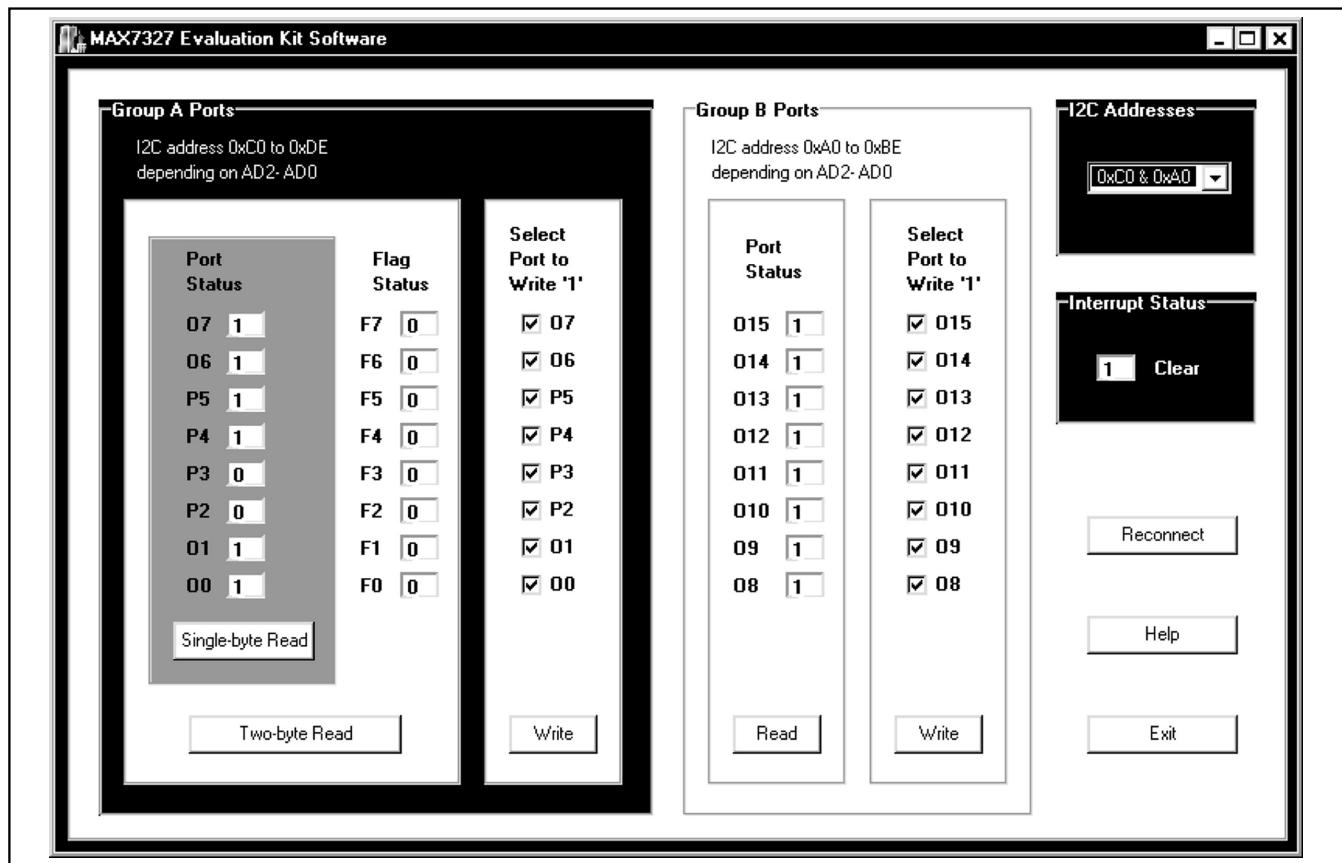

Figure 1. MAX7327 Evaluation Software Main Window
- Start the MAX7327 EV kit software by opening its icon in the **Start** menu. The GUI main window appears as in Figure 1.
To start the MAX7327 EV kit software, double-click the MAX7327 EV kit icon that is created during installation. The GUI main window appears as shown in Figure 1. The user will have to wait approximately two seconds while the MAX7327 EV kit software connects to the CMAXQUSB board.
The **Group A Ports** groupbox shown in Figure 1 contains the read panel and write panel. The read panel consists of two sections: **Port Status** and **Flag Status**.